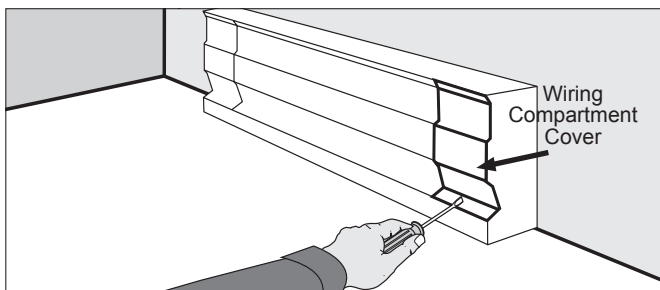

Figure 2
2. Remove the wiring compartment cover by removing the screw (See Figure 2). The wiring compartment is an approved junction box for the baseboard only. No additional junction box is required.